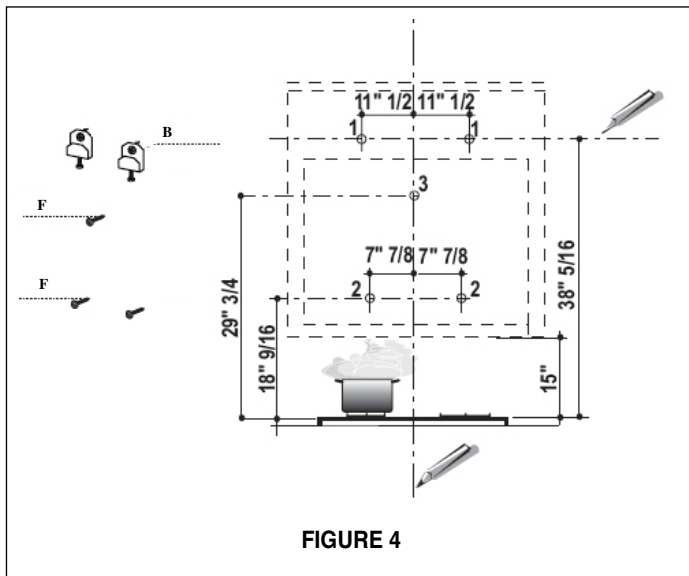

FIGURE 4
3. Draw a horizontal line at  $38\frac{5}{16}$ " above the cooktop (as indicated in FIGURE 4). Mark two points (1) (in FIGURE 4) on the horizontal line,  $11\frac{1}{2}$ " away from the center line on each side. Make sure both marks are level.
4. Mark two points (2) (in FIGURE 4) which are  $18\frac{9}{16}$ " above the cooktop, and are  $7\frac{7}{8}$ " on either side of the center line. Make sure both marks are level. Drill holes in marks 1, 2 and 3